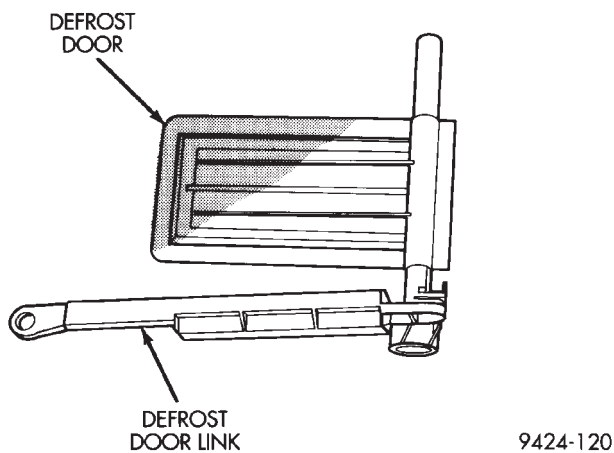

**Fig. 82 Link Removal From Door**
(26) Remove defrost door link from door (Fig. 82).